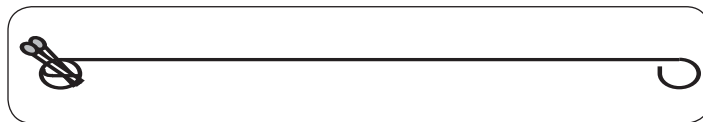
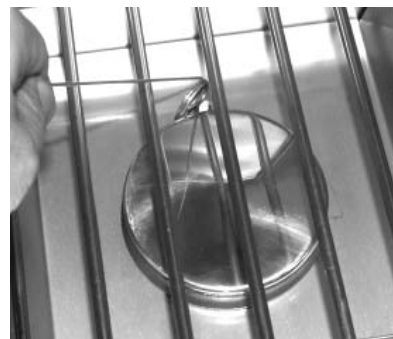

Fig. 9-2 - Match holder
Fig. 9-3 - Manual lighting
2. Insert either a burning long-barrel butane lighter, a burning long-stem match, or a burning match held by a wire extension holder (Fig. 9-2) through the cooking grids to the burner (Fig. 9-3). Hold the flame against the edge of the burner.
REMEMBER: FOR SAFE MANUAL LIGHTING, PLACE A BURNING MATCH OR BUTANE LIGHTER BESIDE THE BURNER - **THEN TURN ON THE GAS** (see Fig. 9-3).